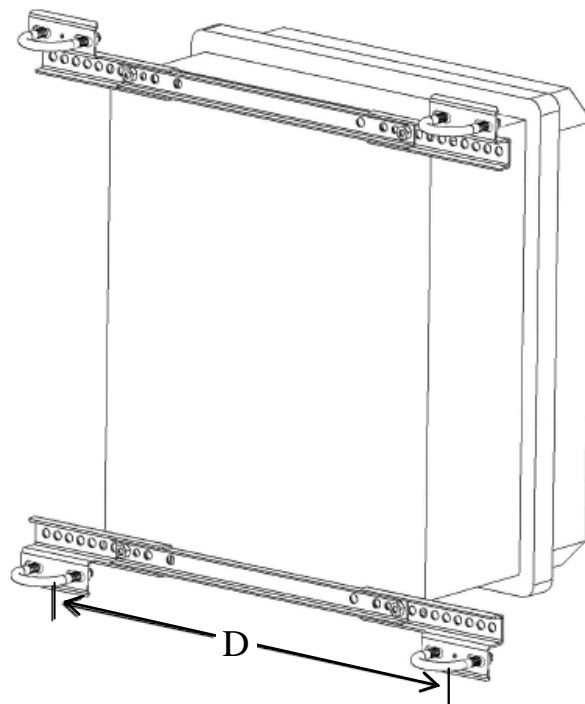

Figure 7-4. Enclosure brackets configured for a tower mount.
The tower mount option is used to attach our enclosures to UT930, UT920, and ATW towers. An enclosure ordered with the tower mount option will be shipped with a three-piece bracket for fitting to the top of the enclosure and an identical three-piece bracket for fitting to the bottom of the enclosure. This mounting bracket option uses the same three-piece brackets as the mast mount option, except the pieces are rearranged so that the flanges are on the side of the bracket instead of in the middle. For the UT930 the distance between the centres of each flange needs to be 43 cm (see Figures 7-4, 7-5, and 7-6), if mounted on the lowest section of the tower. For other towers adjust accordingly.
2. Slide out the flange sections so that the distance between the centres of each flange is 43 cm (see Figure 7-4).